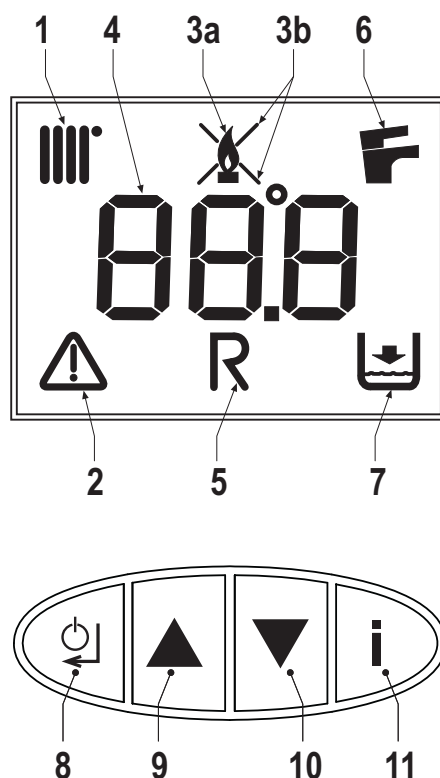

fig. 1 - Control panel
A heating demand (generated by Request Contact, Room Thermostat or Remote Timer Control) is indicated by activation of the radiator (detail 1 - fig. 1).
The multifunction display (detail 4 - fig. 1) shows the heating sensor temperature and, during heating standby time, the message "d2".
A DHW demand (generated by drawing hot water) is indicated by activation of the faucet (detail 6 - fig. 1).
The multifunction display (detail 4 - fig. 1) shows the DHW sensor temperature and, during DHW standby time, the message "d1".
Press the on/off button (detail 8 - fig.1) for 5 seconds.
When the device is turned off, the PCB is still powered. Domestic hot water and heating are disabled. The frost protection system remains activated. To switch the device on again, press the on/off button (detail 8 - fig.1) for 5 seconds.
To access the user settings menu, press the Info button (detail 11 - fig. 1).
Press the Info button (detail 11 - fig. 1) until displaying the parameter **u01** of the user settings menu.
Press Enter (detail 8 - fig. 1): the actual value of the parameter **u01** is displayed.
Use the buttons (details 9 and 10 - fig. 1) to adjust the temperature from a min. of 30°C to a max. of 80°C.
Press Enter (detail 8 - fig. 1) to confirm the setting.
Then press the Info button (detail 11 - fig. 1) until exiting the menu.
Press the Info button (detail 11 - fig. 1) until displaying the parameter **u02** of the user settings menu.
Press Enter (detail 8 - fig. 1): the actual value of the parameter **u02** is displayed.
Use the buttons (details 9 and 10 - fig. 1) to adjust the temperature from a min. of 10°C to a max. of 65°C.
Press the Info button (detail 11 - fig. 1) until displaying the parameter **u03** of the user settings menu.
Press Enter (detail 8 - fig. 1): the actual value of the parameter **u03** is displayed.
Use the buttons (details 9 and 10 - fig. 1) to set Summer mode (0) or Winter mode (1).
Press the Info button (detail 11 - fig. 1) until displaying the parameter **u04** of the user settings menu.
Press Enter (detail 8 - fig. 1): the actual value of the parameter **u04** is displayed.
Use the buttons (details 9 and 10 - fig. 1) to set Economy (0) or Comfort (1) mode.
Then press the Info button (detail 11 - fig. 1) to exit the menu.
Press the Info button (detail 11 - fig. 1) until displaying the parameter **u05** of the user settings menu.
Press Enter (detail 8 - fig. 1): the actual max power step is displayed.
Use the buttons (details 9 and 10 - fig. 1) to vary the max power: from 1 (min Step) to 5 (max Step).
Then press the Info button (detail 11 - fig. 1) to exit the menu
Press the Info button (detail 11 - fig. 1) until displaying the parameter **u06** of the user settings menu.
Press Enter (detail 8 - fig. 1): the actual value of the parameter **u06** is displayed.
Use the buttons (details 9 and 10 - fig. 1) to vary the operation methodology:
Press the Info button (detail 11 - fig. 1) until displaying the information **u07** of the user settings menu.